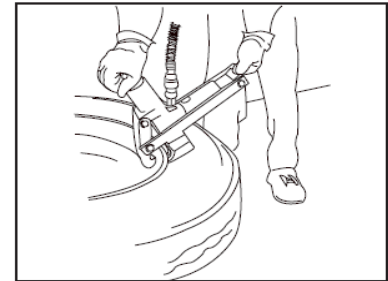

Figure 3
1. Run the air hydraulic pump so that the clamping jaw begins to tighten against the rim. (See Fig. 3) Make sure the wedge – shaped teeth are placed well into the tire bead and against the rim flange.